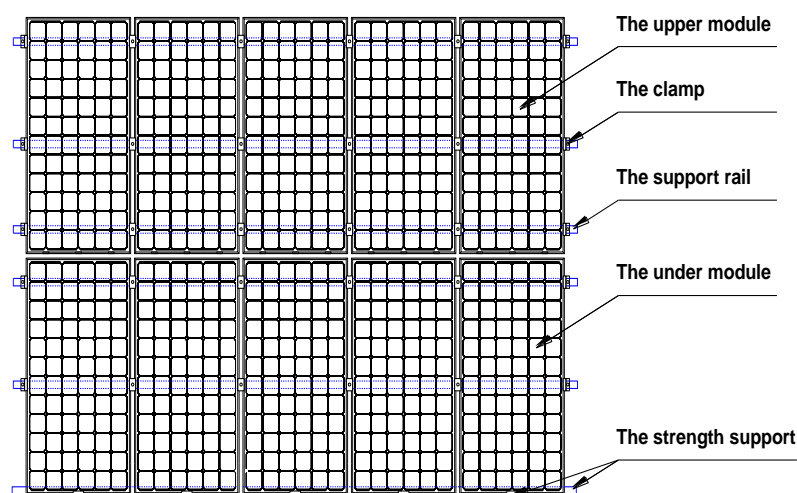

FIG 2 Schematic diagram of reinforcement mounting of module
6.2.1.3 For the roof system installed in the area with relatively heavy snowfall or snow cover in the meteorological records, the installer shall reinforce the supporting system at the lower frame of the module, in order to prevent the lower frame from being pressed and damaged by the falling snow or freezing of the melted snow. GM solar suggests selecting the support reinforcing mechanism shown in Figure 2.